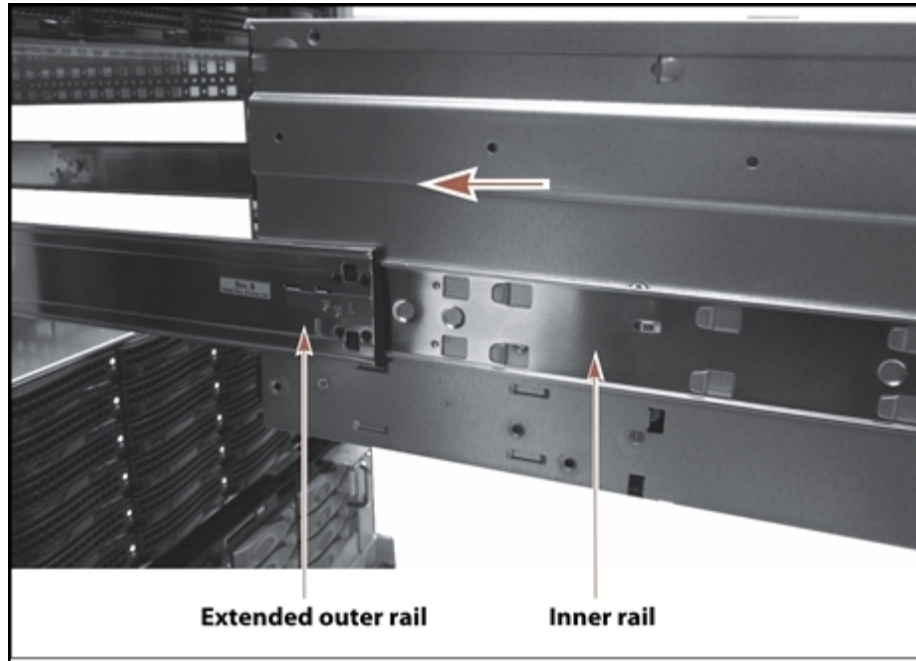

Figure 37 Extend outer rails and slide chassis into rack.
1. Pull the center section of the outer rails out of the rack until they are fully extended (see Figure 37 on page 48).